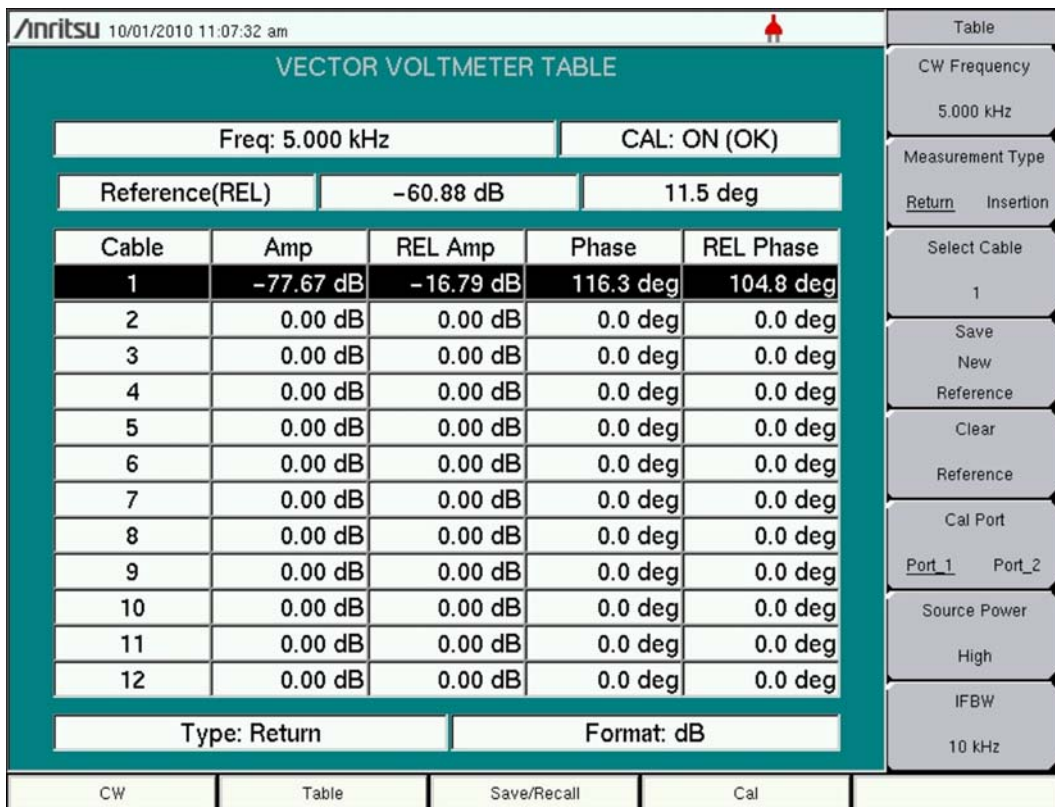

Figure 11-7. Vector Voltmeter Relative Measurement Table – MS20xxC VNA Master
- As shown in Figure 11-7, the Vector Network Analyzer saves the current measurement in a new reference window above the table and updates the REL Amp and REL Phase columns to display the difference between the current measurement and the saved reference measurement.